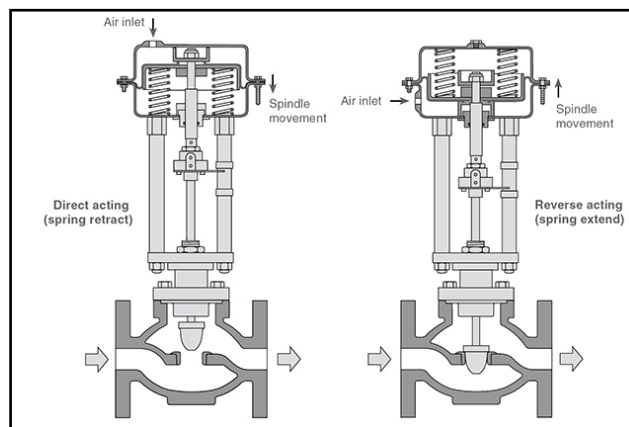

Figure A3a / Rajah A3a
- a) Figure A3a shows a single-acting actuator with air supplied to only one side of the diaphragm. Write the acting operation both of them.